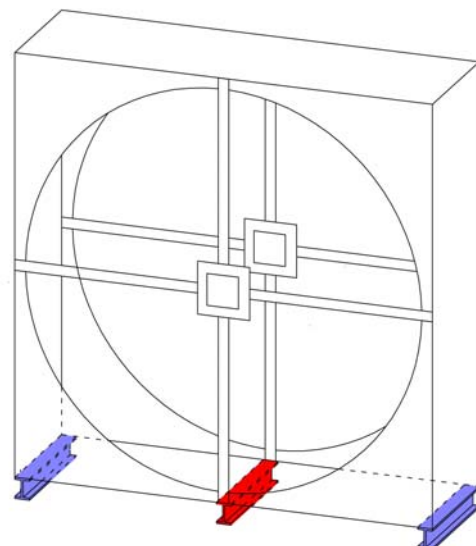

Figure 3
- Above all the weight support of the centre hub needs to be taken into account (Figure 3).